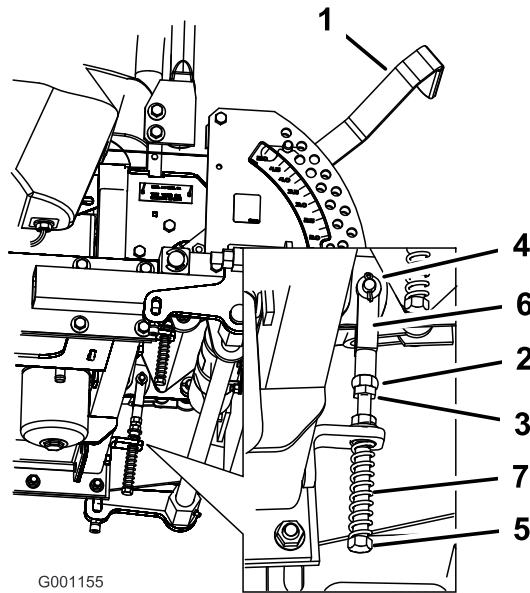

Figure 74
8. If adjustment is needed, loosen the nut and jam nut against the yoke (Figure 74).
9. Apply slight rearward pressure on the motion control lever, turn the head of the adjustment bolt in the appropriate direction until the control lever is centered in the neutral lock position (Figure 74).
10. Tighten the nut and jam nut (Figure 74).